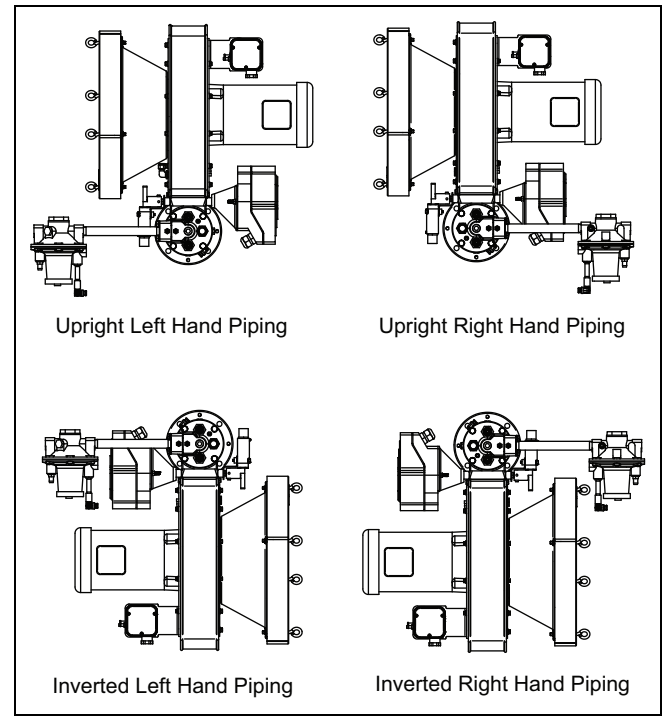

Figure 3.1. Configuration Selection and Motor Orientation Choice
- **Fuel Type:** Variations in calorific value, specific gravity and WOBBE index will affect burner performance. If any of these parameters change more than ±5% from Figure 3.1 contact Heatflam to check the suitability of the fuel. Performance data, dimensions and specifications are given for each RM in Datasheets Series No.110.